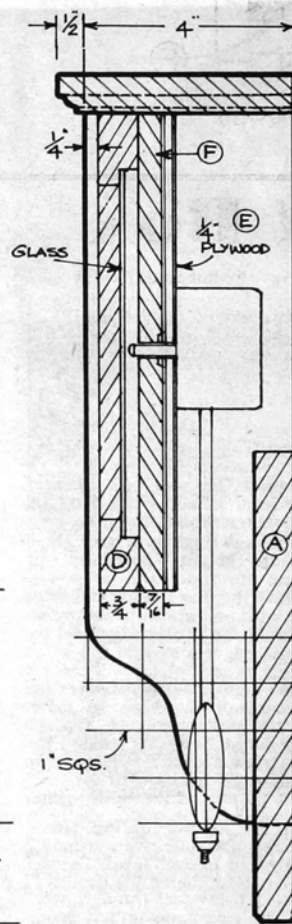

FIG. 2 SECTION A-A
One inch #2 pine ($\frac{3}{4}$ " actual thickness) is used for all parts except the dial board (E) which is $\frac{1}{4}$ " fir plywood. Start by enlarging the grid pattern of Fig. 2 on to a piece of cardboard. Cut out the template and trace around it to transfer the curves to two pieces of $\frac{3}{4}$ " x 4" x 15" stock for sides (B). Cut curves with saber or bandsaw. Use a router to run the chamfer on the front edge of each side or just do it in the old-fashioned way with a chisel or spokeshave.